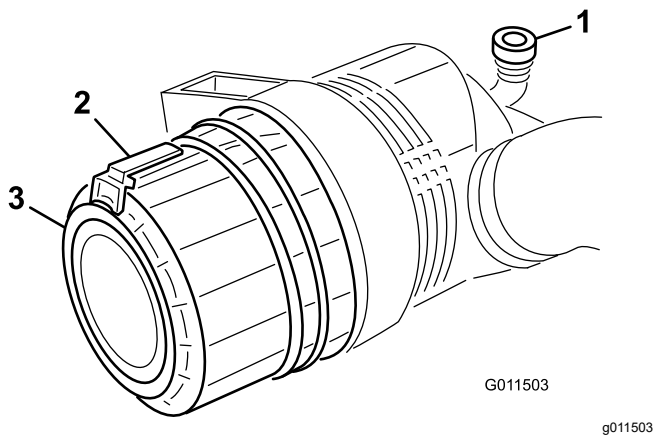

Figure 52
2. Pull the latch outward and rotate the air-cleaner cover counterclockwise (Figure 52).